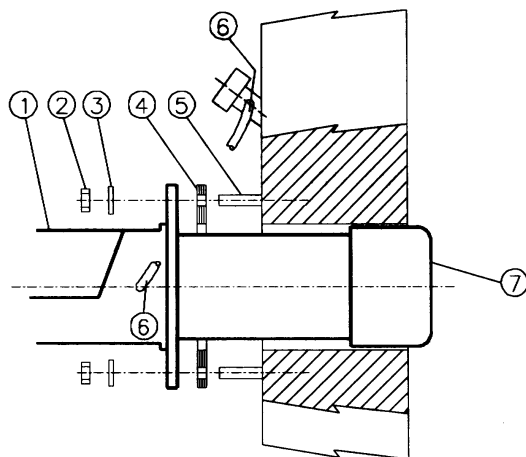

Fig. 1
- 2 screw the studbolts (5) on the boiler door, according to the drilling plate (see paragraph "Overall dimensions");
- 8 fix the burner to the stud bolts, by means of the fixing nuts, according to Fig. 1.